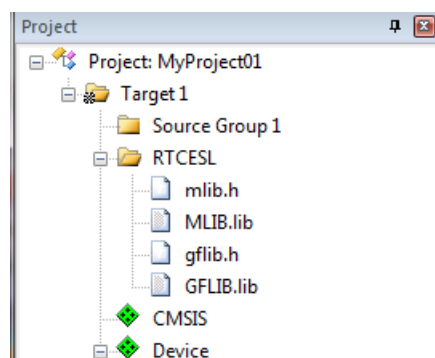

Figure 1-33. Project workspace
8. Now, all necessary files are in the project tree; see Figure 1-33. Click Close.